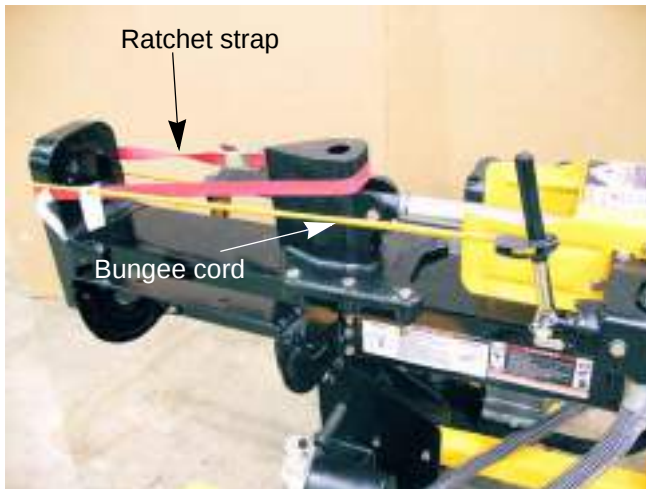

Figure 5.9
9. Wrap a ratchet strap around the wedge and the base plate. See Figure 5.9.
NOTE: A bungee cord can be used to hold the control valve in the extend position. See Figure 5.9.